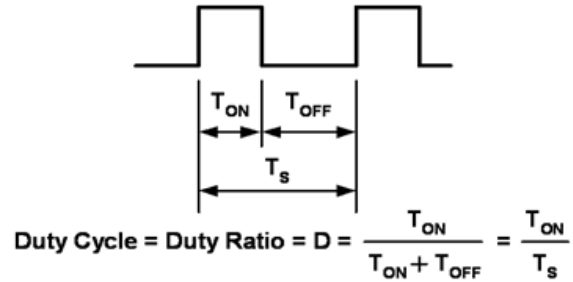

Figure 13.
LEDs on and off for a portion of a single cycle. This on/off cycle is called the Duty cycle (D) and is expressed by the amount of time the LEDs are on (T_{ON}) divided by the total time of an on/off cycle (T_s) (Figure 13).